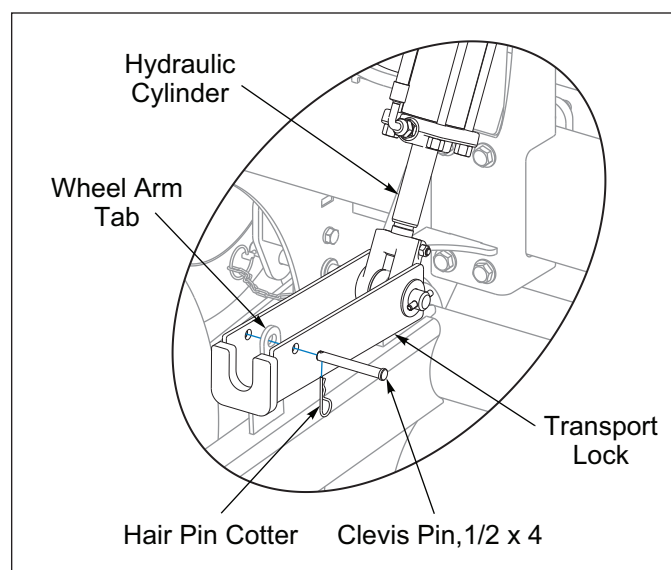

Figure 2-8: Transport Lock Stored
3. If the Transport Locks are engaged, raise the Seeder and remove the Transport Locks. **See Figure 2-8.**